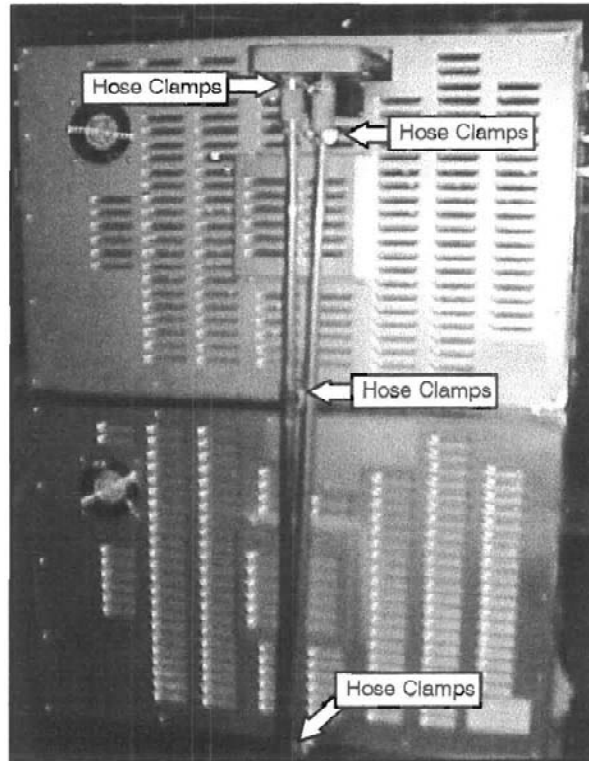

Figure 15 Copper Drain Tube Location
7. Cut the wire tie holding the copper drain tubes together. See Figure 15.